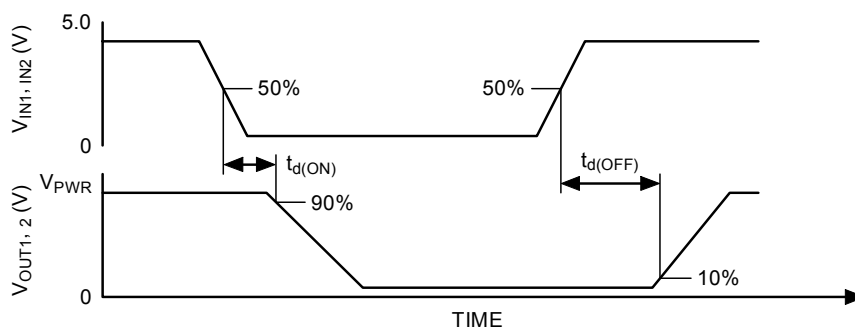

Figure 2. Output Delay Time
22. Output Delay is the time duration from the midpoint of the IN1 or IN2 input signal to the 10% or 90% point (dependent on the transition direction) of the OUT1 or OUT2 signal. If the output is transitioning High-to-Low, the delay is from the midpoint of the input signal to the 90% point of the output response signal. If the output is transitioning Low-to-High, the delay is from the midpoint of the input signal to the 10% point of the output response signal. See Figure 2, page 8.